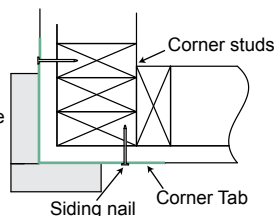

Figure 22
- For wood frame construction, attach the trim to the building with 2, 6d siding nails fastened through the Corner Tabs. ET&F or equivalent fasteners may be used to attach the Corner Tabs to steel frame construction. (Figure 22)